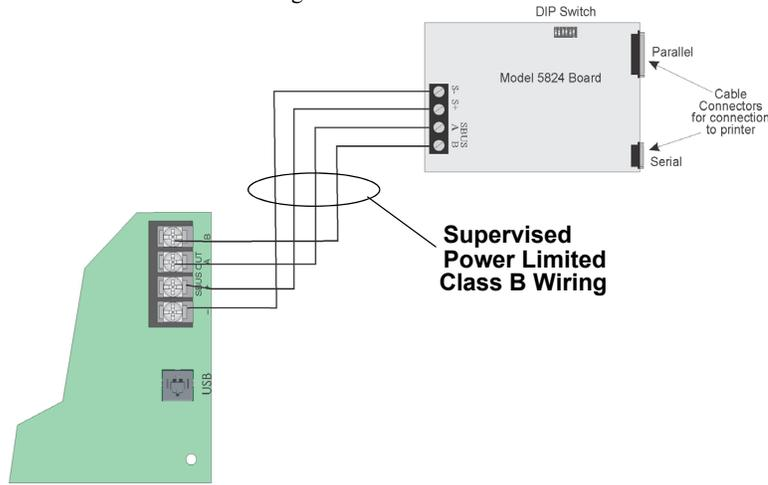

Figure 4.28 5824 Connection to the Panel
- Connect the 5824 to the panel as shown in Figure 4.28.
- 5. Connect a printer to the 5824 as shown in Figure 4.28.